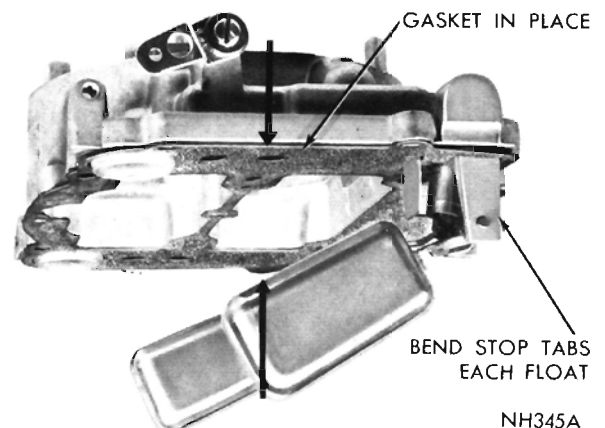

Fig. 12—Checking Float Drop
(1) Holding air horn in an upright position, measure distance from the top of floats (outer end) to the air horn gasket, (Fig. 12). This measurement should be 3/4 inch. If an adjustment is necessary, bend stop tabs on float levers until correct drop setting has